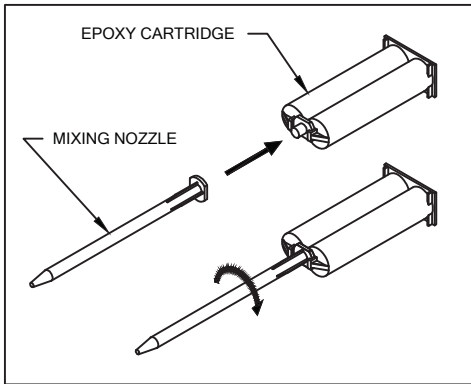

FIGURE 10.
- 9.3. ONCE TESTED, FILL THE PILOT HOLE WITH ADHESIVE (REFERENCE CAULKING GUN CONVERSION KIT FIGURES 10 & 11) AND PERMANENTLY ATTACH ALUMINUM SPLINE. CAUTION: STAR WASHER MUST BE SECURELY TIGHTENED AND EMBEDDED INTO ALUMINUM SPLINE TO PREVENT ATTACHED END CAP FROM ROTATING.
- 2.3. ONCE TESTED, FILL THE PILOT HOLE WITH ADHESIVE (REFERENCE CAULKING GUN CONVERSION KIT FIGURES 10 & 11) AND PERMANENTLY ATTACH ALUMINUM SPLINE. CAUTION: STAR WASHER MUST BE SECURELY TIGHTENED AND EMBEDDED INTO ALUMINUM SPLINE, TO PREVENT ATTACHED END CAP FROM ROTATING.
EPOXY CARTRIDGE AND MIXING NOZZLE. REFER TO FIGURE 10.